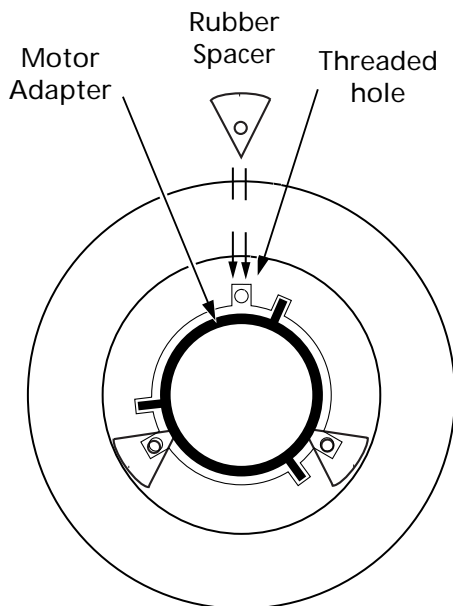

Figure 4b - Placing Rubber Spacers
1. Position the three rubber spacers over the threaded holes in the motor adapter as shown in Figure 4b